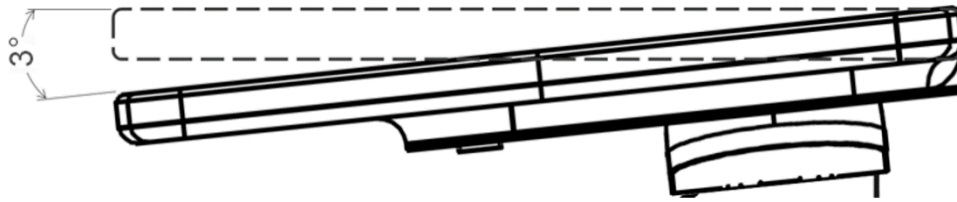

Figure 22: Tilting the ODU forward to 3-degrees
6. The stanchion is adjustable and allows for pivoting around the lower bolts. These bolts were installed first in step 4 when connecting to the mount and left loose enough to allow pivoting. The curved slot in the center of the stanchion on either side controls the angle of the stanchion, which can be locked in place using the proper bolts. The ODU requires 3-degrees of forward tilt where forward is the direction away from the bridge along the short side of the panels (shown in Figure 22). An inclinometer must be used to ensure the ODU is at the desired 3-degrees of forward tilt, after which all four bolts may be tightened to their respective torques.